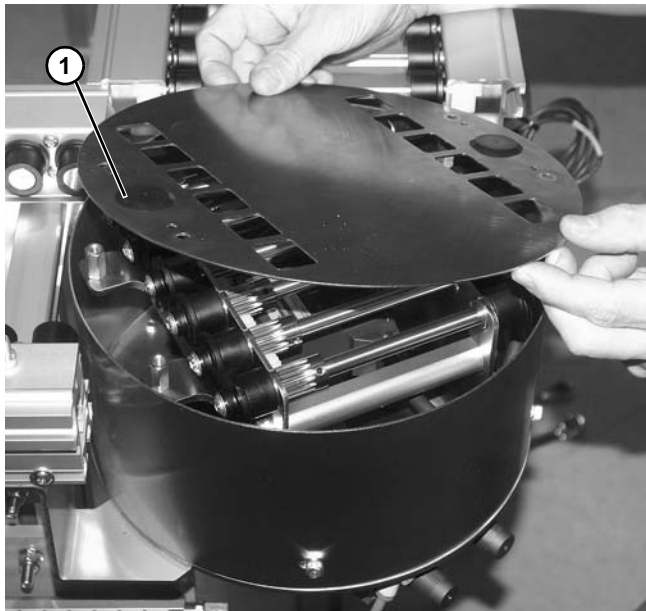

Figure 131
2. Remove top plate (Figure 131, item 1).